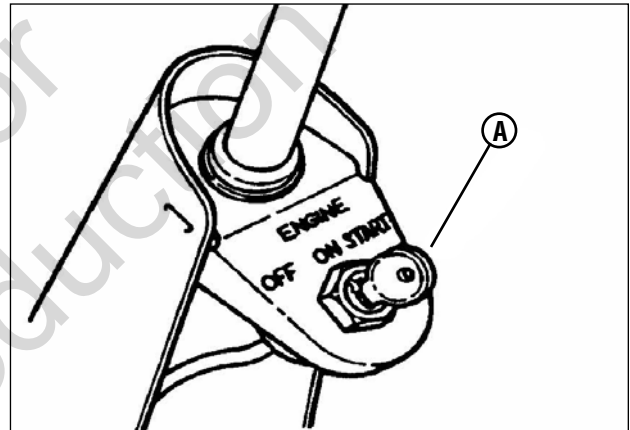

Figure 9: Key
- Turn the key (A, Figure 9) to the "ON" position.